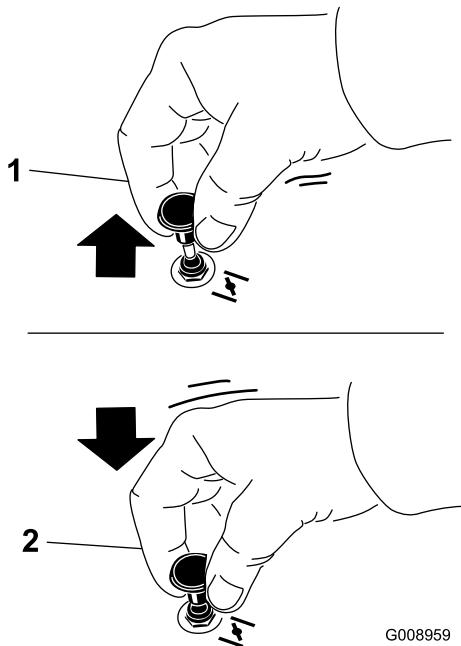

Figure 19
2. Pull up the choke knob to engage the choke before using the ignition switch (Figure 19).
3. Push down the choke knob to disengage the choke after starting the engine (Figure 19).